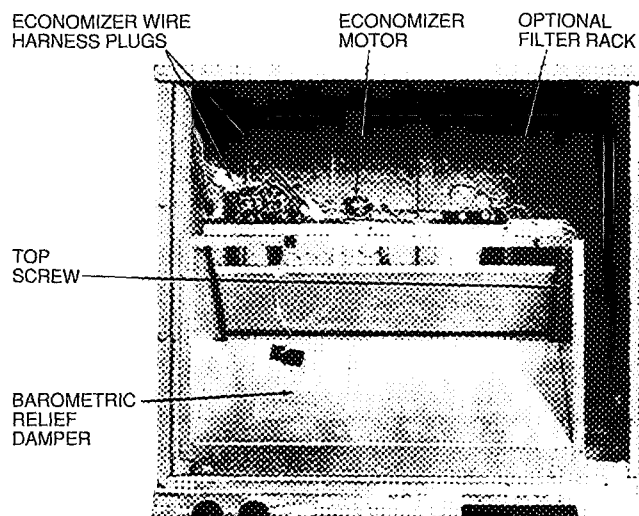

Fig. 16 – Economizer Installed in Unit
5. Slide economizer into unit and secure with screws. See Fig. 16.
7. Insert economizer plug into economizer harness. Remove tape from barometric relief damper. See Fig. 16.